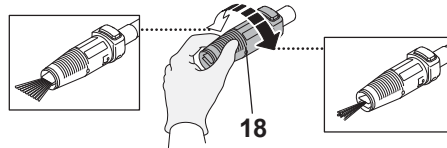

Fig. 10
2. Press the unlock button (12a) and attach the rotary nozzle (17) to the extension lance (12). Release the button (12a) to secure the nozzle in place (Fig. 10).
3. Check if the rotary nozzle (17) is attached properly by pulling on it. It should not pull out.
2. Turn the vario nozzle to adjust the water jet according to the surface to be cleaned (Fig. 10).